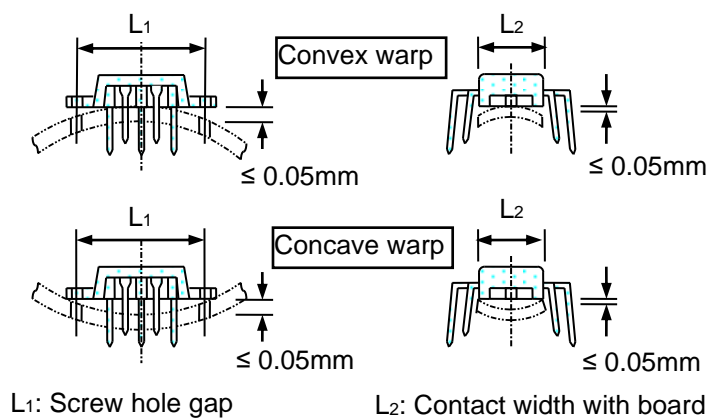

Fig. 10 Heat sink warping:
- (a) To avoid a heat sink causing convex or concave warping, keep the warp between screw holes less than 0.05 mm (Fig. 10). Also, twist to a maximum of 0.05 mm .